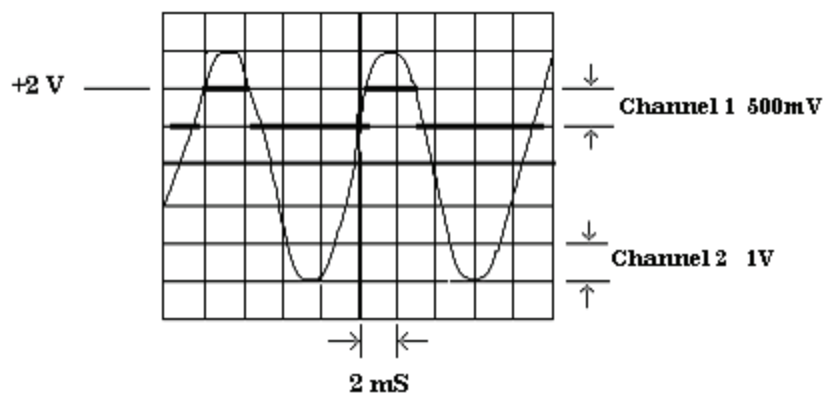

Figure 4. Remote trigger level - +2 V.
(8) Move oscilloscope **Vertical 1** connection from TI CHANNEL A MARKER OUTPUT to TI CHANNEL B MARKER OUTPUT.
(9) Repeat (7) above.
(10) Execute TI command string PF4G6S1S3A379+200*B37+200*R.
(11) Adjust oscilloscope **Vertical 1** control so that the top of TI marker output waveform on channel 1 (fig. 4) just barely intersects both positive and negative slopes of sine wave on channel 2 (fig. 4). If this intersection does not occur at $+2.00\text{ V} \pm 35\text{ mV}$ on sine wave, as shown in fig. 4, perform **b** below.